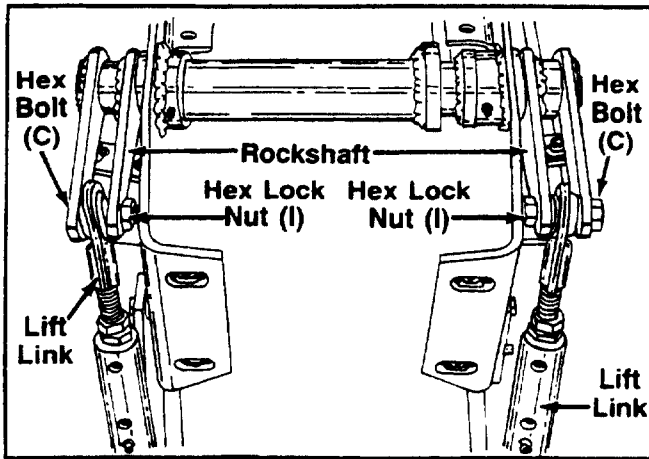

FIGURE 35.
44. Assemble the lift links to the rockshaft, using hex bolts (C) $\frac{1}{2}$ x $1\frac{3}{4}$ " long and hex lock nuts (I). See figure 35.